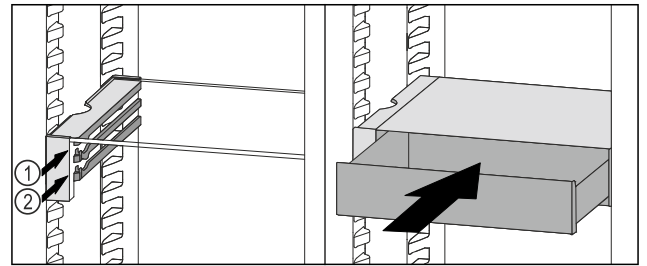

Fig. 133
- Place the VarioSafe drawer behind the stoppers on desired rib *Fig. 133 (1)* or *Fig. 133 (2)*.